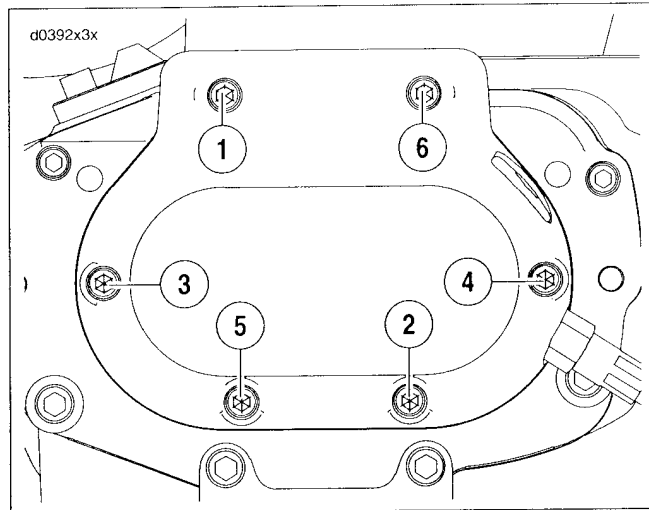

Figure 7-17. Cover Screws
2. See Figure 7-17. Remove the six screws that hold the clutch release cover in place. Remove the clutch release cover and discard the gasket.
5. See Figure 7-17. Install **new** gasket and replace clutch release cover. Tighten all six screws to 84-108 **in-lbs** (9.5-12.2 Nm).